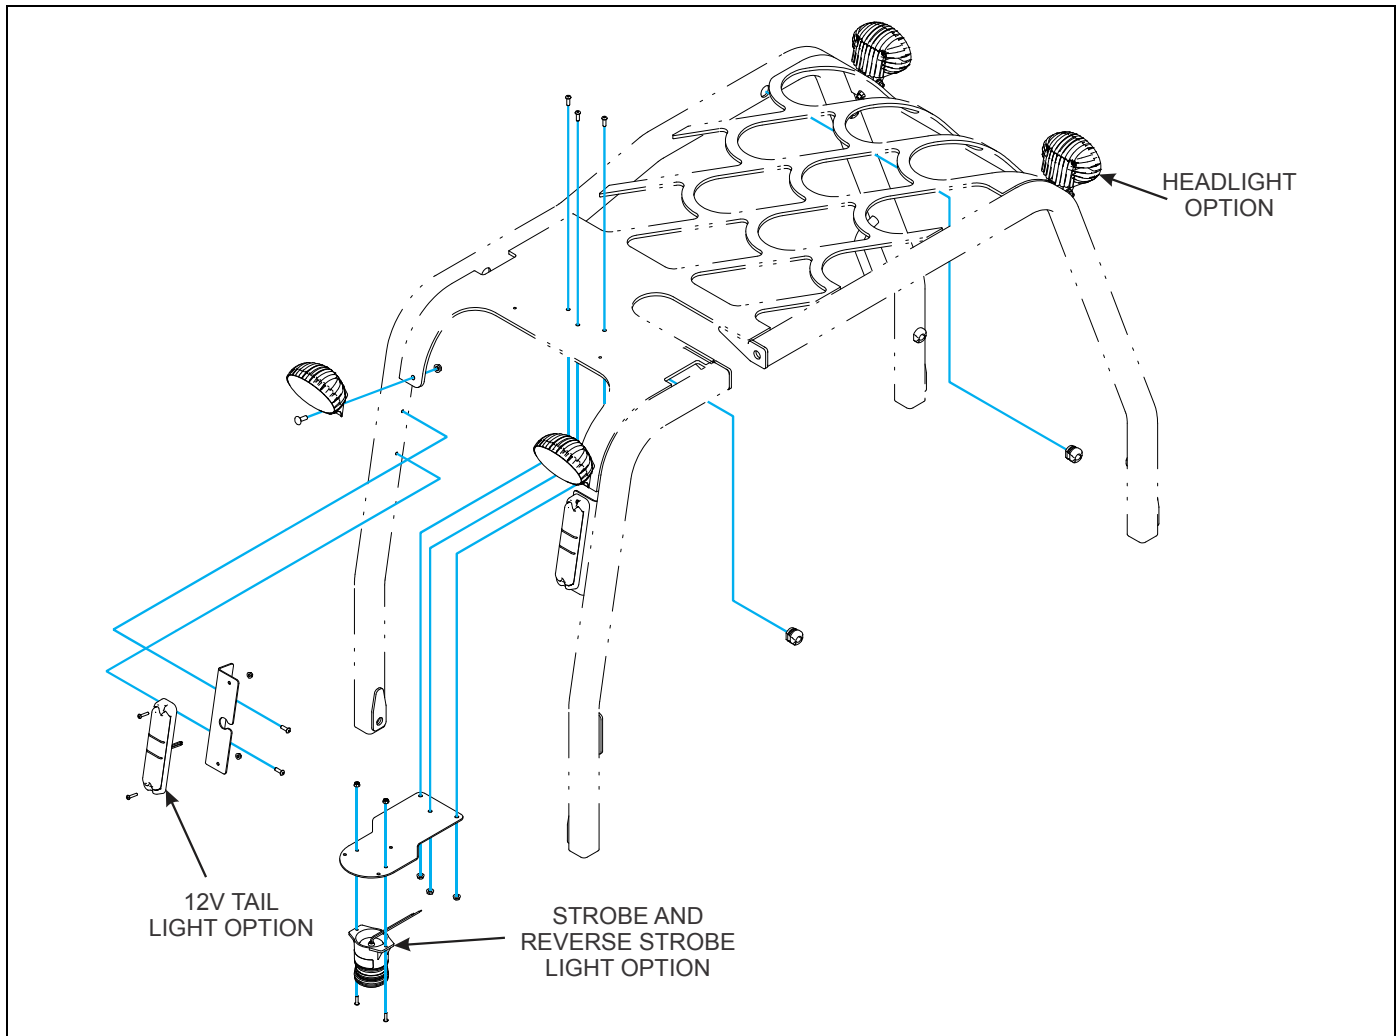

Figure 3-46: Overhead Guard Alarms and Lighting Options
Additional options can include backup alarms, etc (See Figure 3-46).
4. To replace the alarm assembly, simply disconnect the wire connector and remove the mounting hardware holding the alarm to its mounting bracket (See Figure 3-46).